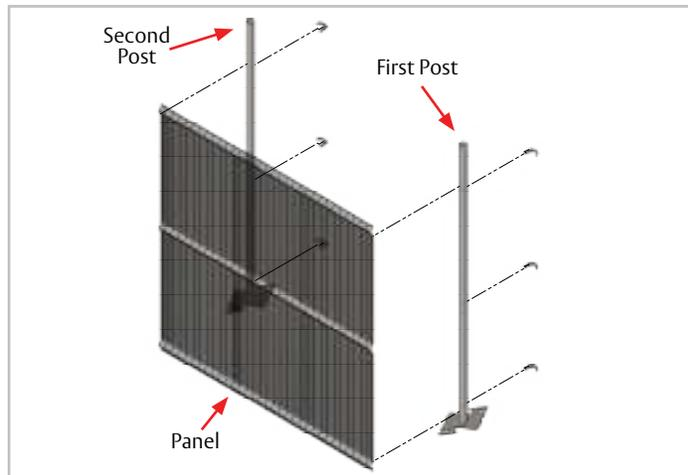

FIG. 1
- 1) Orient the panel up against the first post. (Fig. 1) At this point it is not important to have your next post in the exact final location. Having it close and then nudging it into the correct spot is easier after you are secure to the first post.